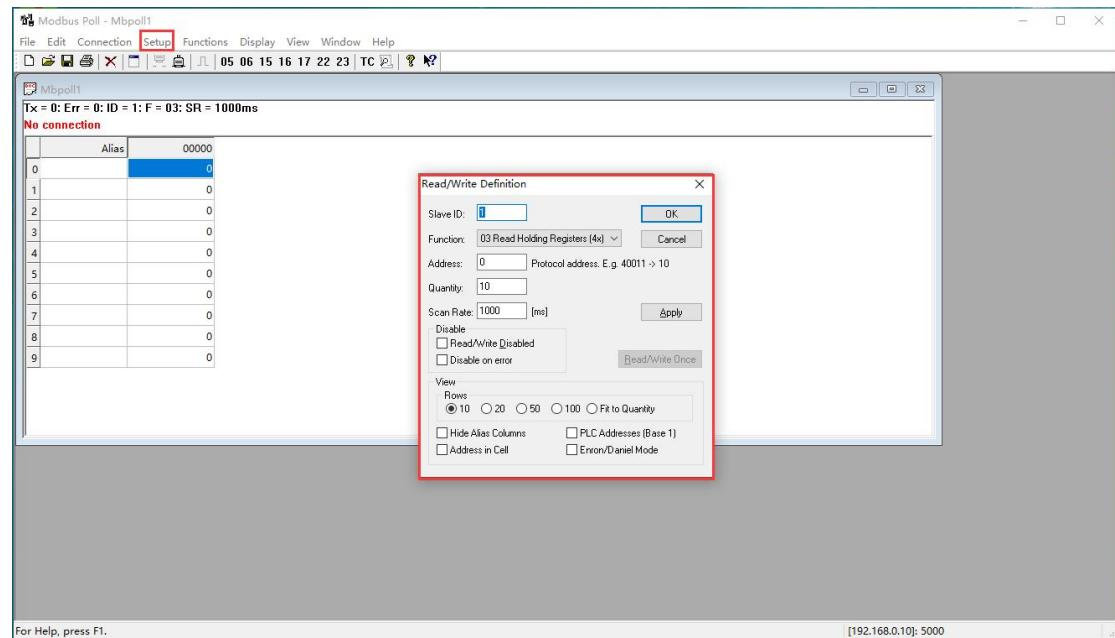

Figure 6-23 Modbus Master Creation
- 3) Set the computer IP to 192.168.0.1 (consistent with the remote IP set in the module), and open "Modbus Poll". Tool, other parameter settings are as shown in Figure 6-23, ID is set as 1, and function code is selected as 3.